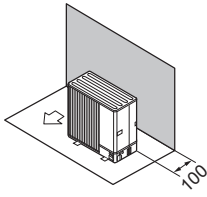

Fig. 1-7
- ① Obstacles at rear only (Fig. 1-7)